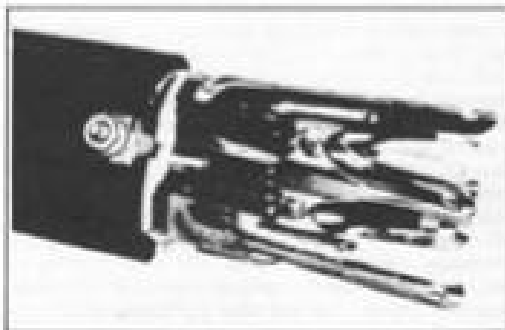

Figure 5-29. Using Clamps to Hold Freestroke Brushes in Place
Reassembly is essentially the reverse of the disassembly procedure. If brushes (9 and 10) and springs (8) have been released from holder, use clips or clamps as shown in Figure 5-29 to hold them in place while installing armature. Note